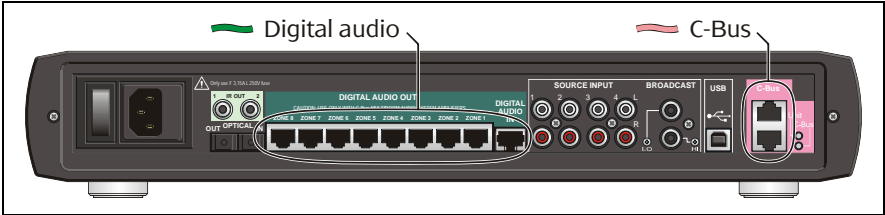

Figure 1 – Never plug a C-Bus cable into a digital audio socket or vice versa
- Both C-Bus and digital audio cables are terminated with RJ45 connectors. Never plug either of these cables into the wrong socket. C-Bus cable is pink. The RJ45 sockets on the rear of the Matrix Switcher are identified in Figure 1.